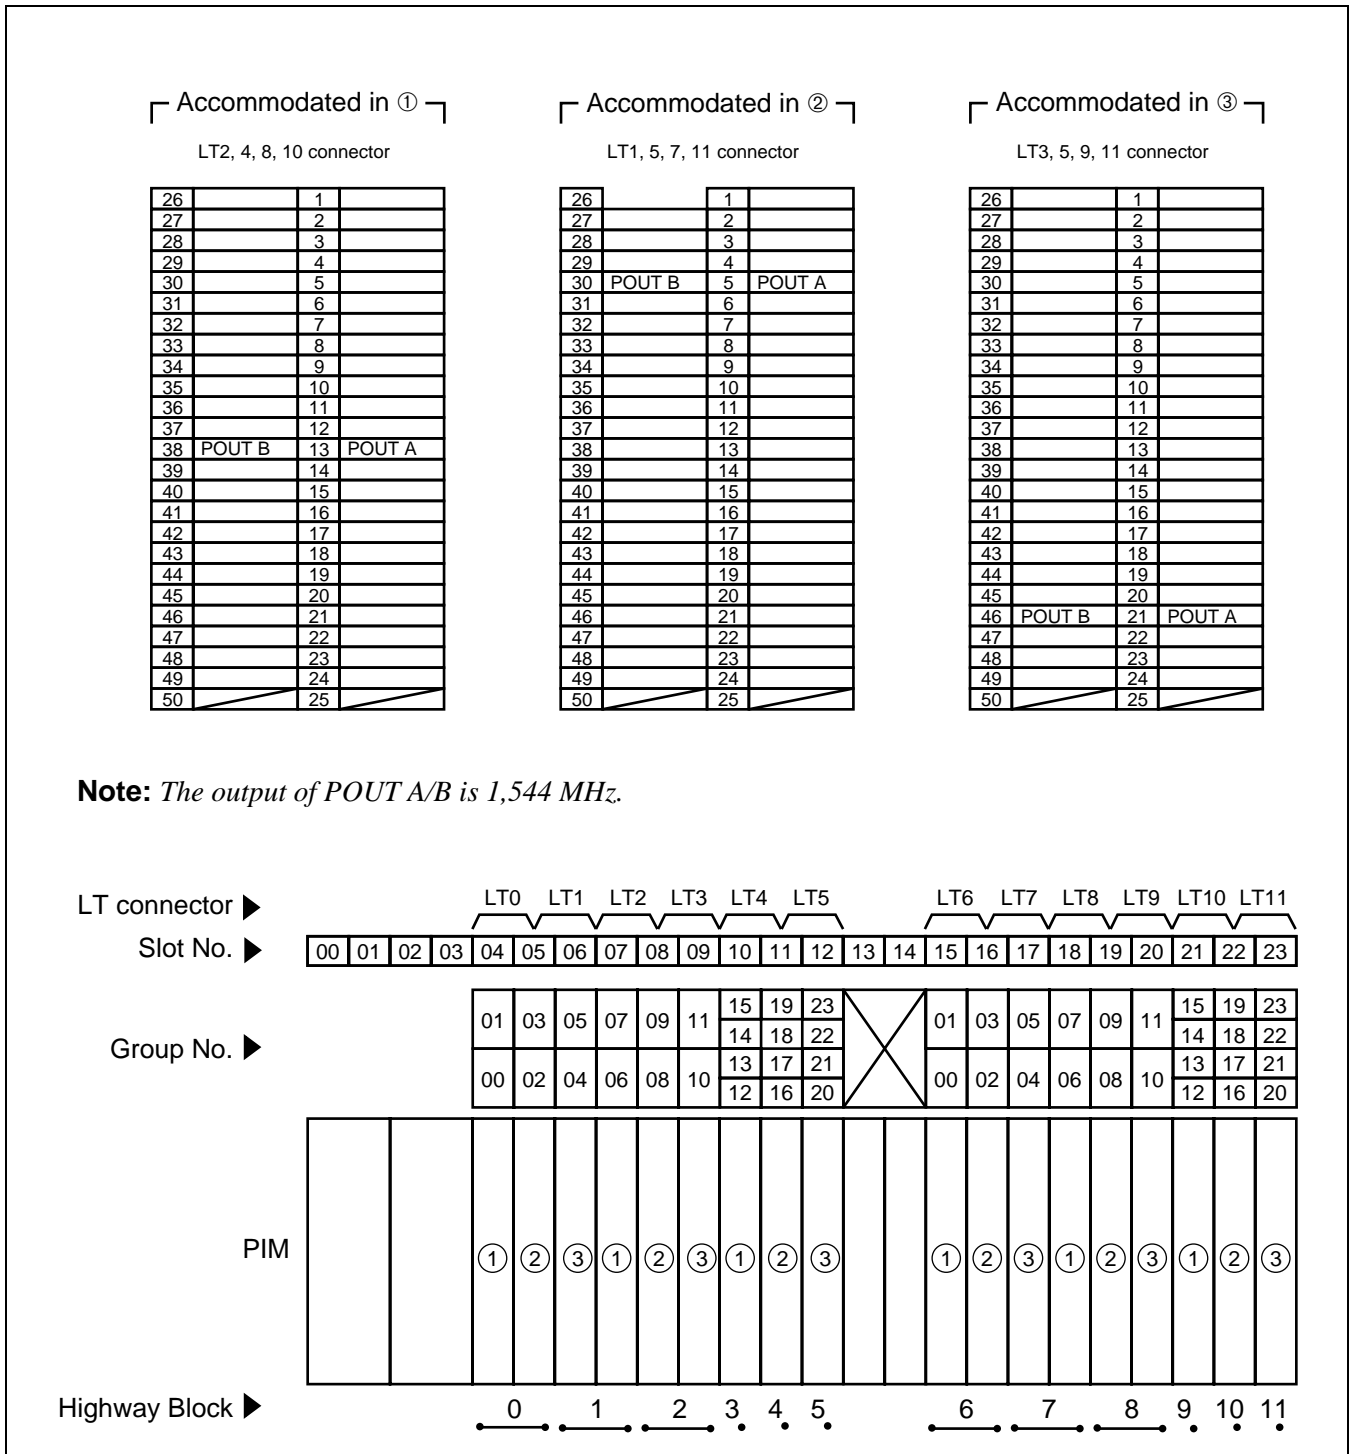

Figure 3-82 LT Connector Lead Accommodation
- Accommodation for the LT connector leads of this circuit card is shown in Figure 3-82.